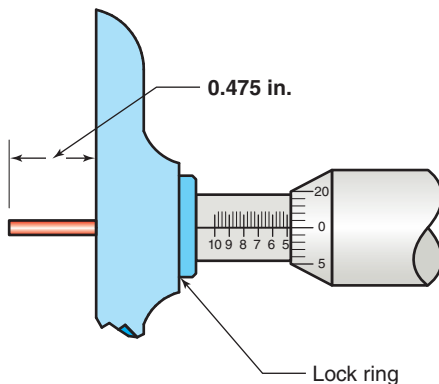

Figure 7-13 This depth micrometer reads 0.475 in. Can you see why?
7.1.2B Backward Readings In Fig. 7-13, note that the micrometer head reads opposite previous instruments. It is at zero when the thimble is backed all the way out (unscrewed). *You must read it by determining how much has not been covered up.* Look at Fig. 7-13. What is the reading? Now, read the magnified depth mic setting in Fig. 7-14. It's tricky.
Now, set your depth micrometer to the same readings as in Figs. 7-13 and 7-14.